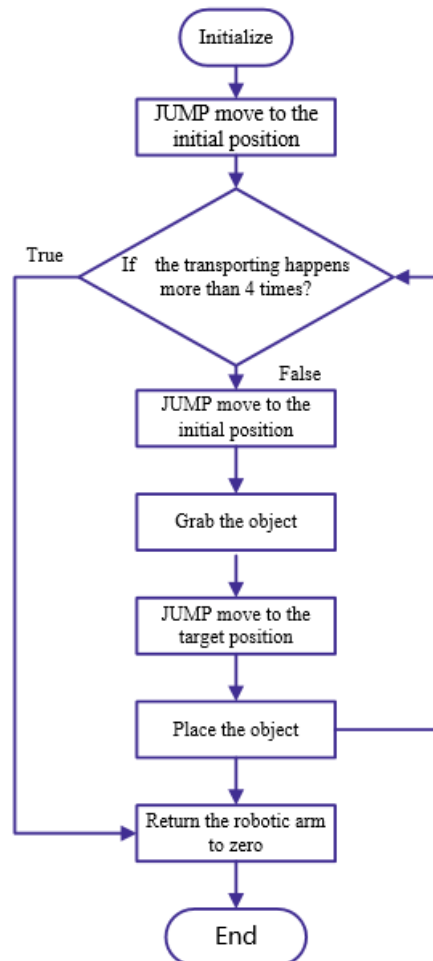

Figure 2.26 Flowchart of transporting 4 objects
(2) Design Program
Step 1: According to your observation, read the flowchart of the robot arm transporting 4 times, as shown in Figure 2.26.